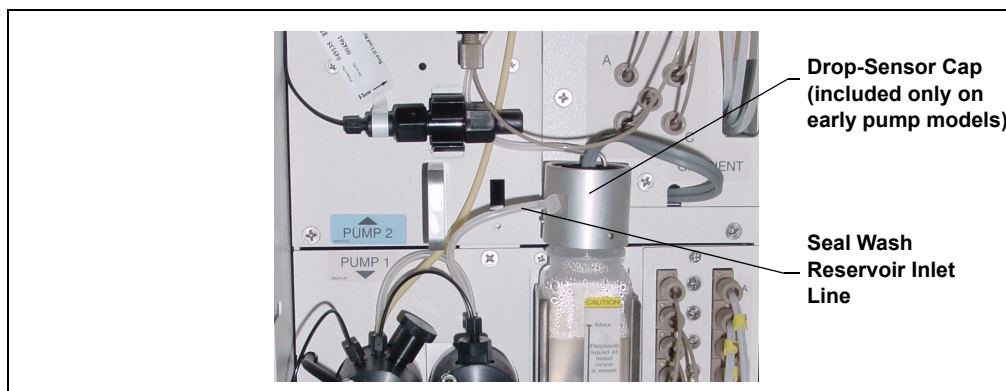

Figure 4-3. Optional Drop-Sensor Reservoir Cap Connections
5. If a seal wash reservoir with a drop-sensor cap is installed, connect the outlet line from the reservoir cap to the secondary pump head (see Figure 4-3).